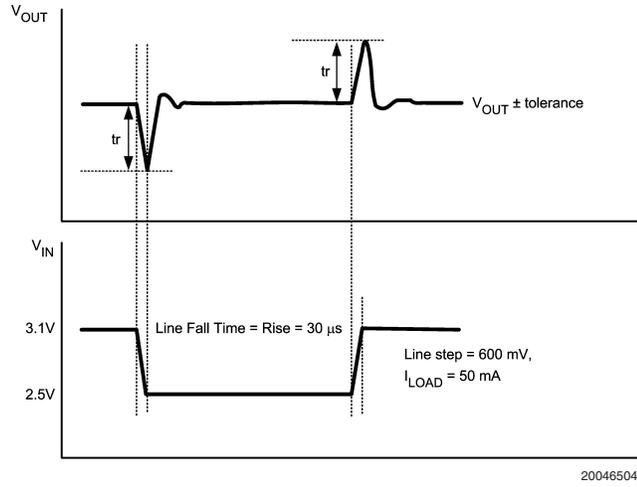

FIGURE 1. Line Transient Response Requirement.
**Note 10:** Time for  $V_{OUT}$  to rise from 10 to 90% of  $V_{OUT(\text{nom})}$ . (figure 1)